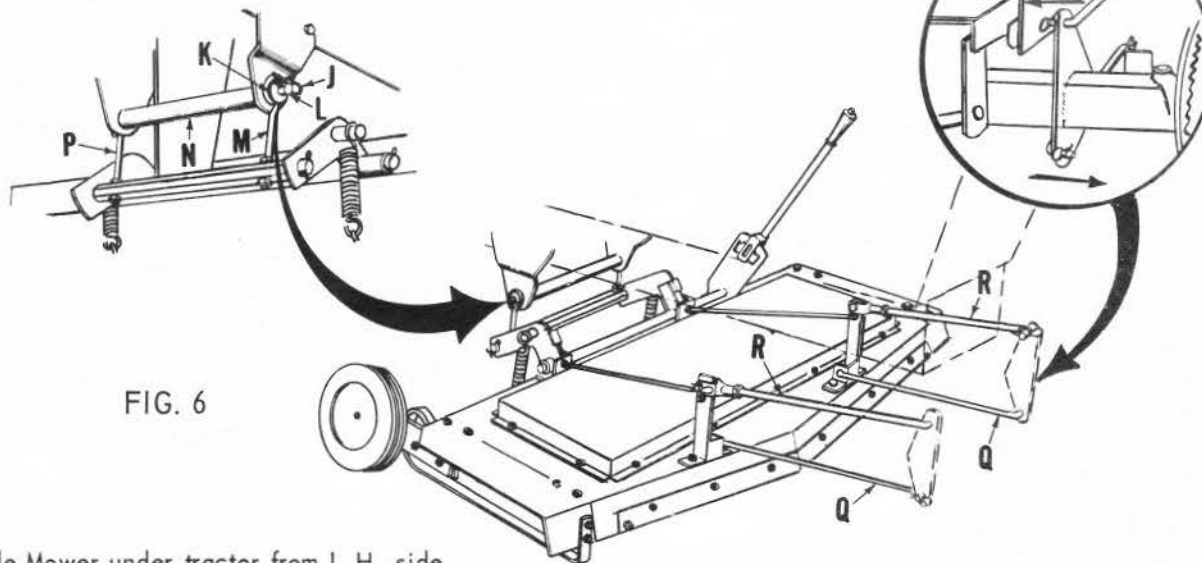

FIG. 6
5. Refer to Fig. 6. Slide frame hanger shaft (L), with washer into eyebolt (M), rear hanger (N), and eyebolt (P). Place washer (K), over end of frame hanger shaft (L), and secure with retainer spring (J). NOTE: Washers on hanger shaft are outside and next to eyebolts. Retainer spring and washer removed in step 3.
6. See Fig. 6. Assemble lower parallel arms (Q), to Mower and tractor as shown. Secure with retainer springs. Retainer springs shipped in bag of parts.
7. Assemble upper parallel arms (R), to Mower and tractor as shown in Fig. 6. Secure with retainer springs. Retainer springs shipped in bag of parts.